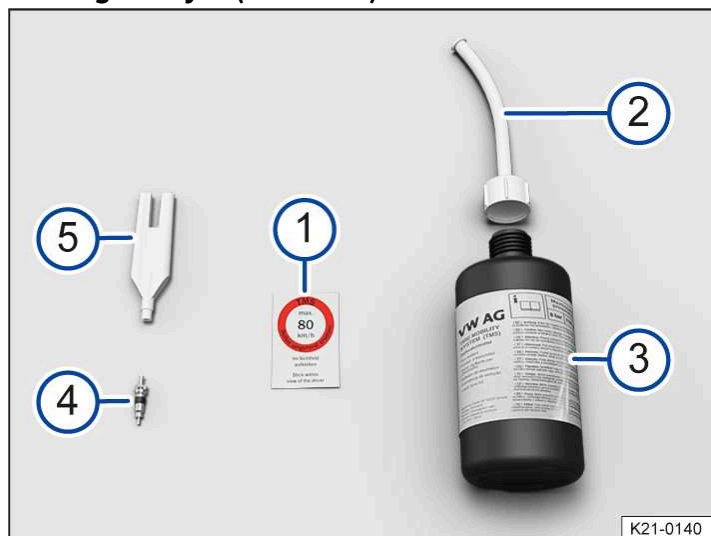

Fig. 1 Contents of the breakdown set (illustration).
i There is a slot for the valve core on the lower end of the valve core extractor → Fig. 1 5. This is required for extracting the valve core from the tyre valve and then screwing it back into the valve again. This also applies to the spare valve core 4.
1. Take the sticker from the breakdown set → Fig. 1 1 and stick it on the dash panel within the driver's field of vision.
3. Use the valve core extractor → Fig. 1 5 to unscrew the valve core from the tyre valve. Place the core on a clean surface.
4. Shake the tyre filler bottle → Fig. 1 3 vigorously to and fro several times.
5. Screw the tyre sealant tube → Fig. 1 2 tightly onto the tyre filler bottle in a clockwise direction. The seal on the top of the bottle is pierced when doing so.
6. Remove the plug from the filler hose → Fig. 1 2 and place the open end fully on the tyre valve.
9. Use the valve core extractor → Fig. 1 5 to screw the valve core back into the tyre valve.